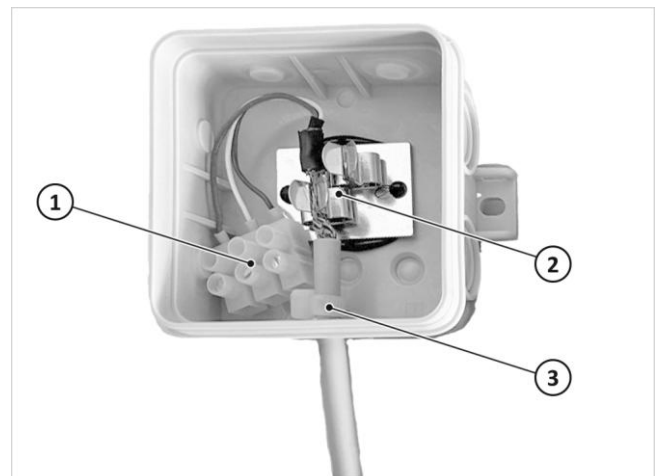

Fig. 112: Attaching the Modbus junction box
- Use the cable ties supplied for strain relief of the cables to the heating pump as illustrated in *fig. 112 (3)*.